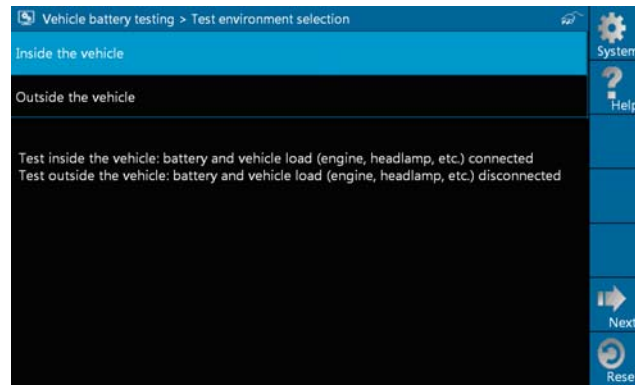

Fig. 3-1
1. Enter battery test main menu, and select a desired test environment as shown in Fig. 3-1.
1. On Fig. 3-1, select [Outside the vehicle], and click [Next] to enter.
1. In Fig. 3-1, click [system], a pull-down menu will pop up.